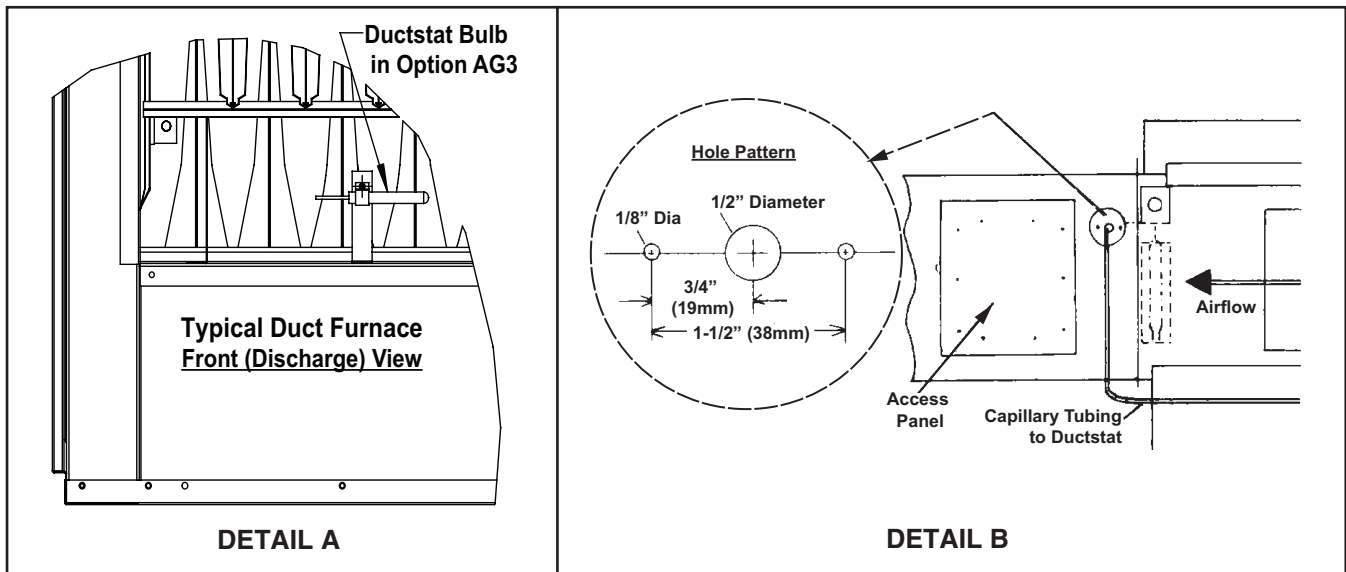

Figure 21. Capillary Sensor Bulb Installation (Option AG3)
- (1) Ductstat and sensor are connected by permanently-attached capillary tube. Before connecting ductwork, remove shipping angle and capillary tube sensor bulb with bracket and clip from its shipping position on furnace (see Figure 21, DETAIL A).
- (2) Drill holes in ductwork in accordance with hole pattern shown in Figure 21, DETAIL B.
- (3) Remove ductwork access panel (see Figure 21, DETAIL A).
- (4) Remove sensor bulb from bracket and push sensor through 1/2-inch hole. While reaching through access hole, use retaining clip to reinstall sensor to bracket.
- (5) Slide gasket (cut slit) and hole retainer plate over capillary tubing. With gasket next to ductwork, install hole retaining plate and secure using field-supplied sheet metal screws.
- (6) Close ductwork access panel.